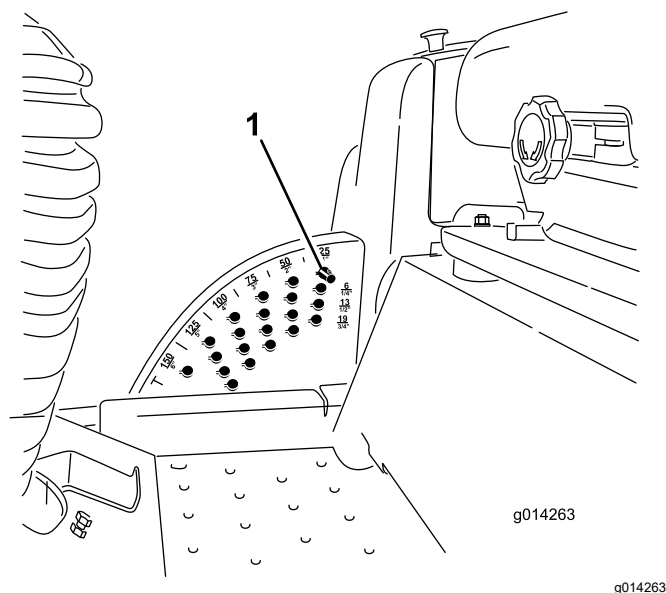

Figure 8
1. With the engine running, push back on the cutting unit lift switch until the cutting unit is fully raised and **release the switch immediately** (Figure 8).
2. To adjust the height of cut, rotate the stop pin until the nub on it lines up with the slots in the holes in the height-of-cut bracket and remove it (Figure 8).
3. Select a hole in the height-of-cut bracket corresponding to the height-of-cut desired, insert the pin, and rotate it down to lock it in place (Figure 8).
Note: There are 4 rows of hole positions (Figure 8). The top row gives you the height of cut listed above the pin. The second row down gives you the height listed plus 6 mm (1/4 inch). The third row down gives you the height listed plus 12 mm (1/2 inch). The bottom row gives you the height listed plus 18 mm (3/4 inch). For the 15.8 cm (6 inch) position there is only 1 hole,